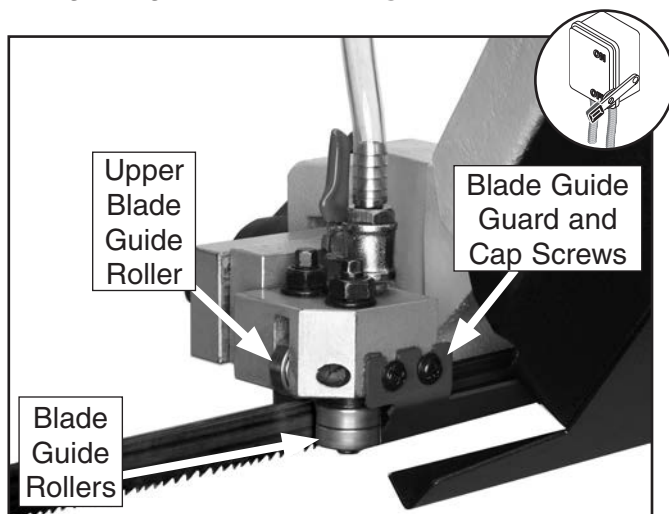

Figure 40. Upper blade guide components.
4. Loosen the two cap screws and the blade guide guard shown in **Figure 40**.